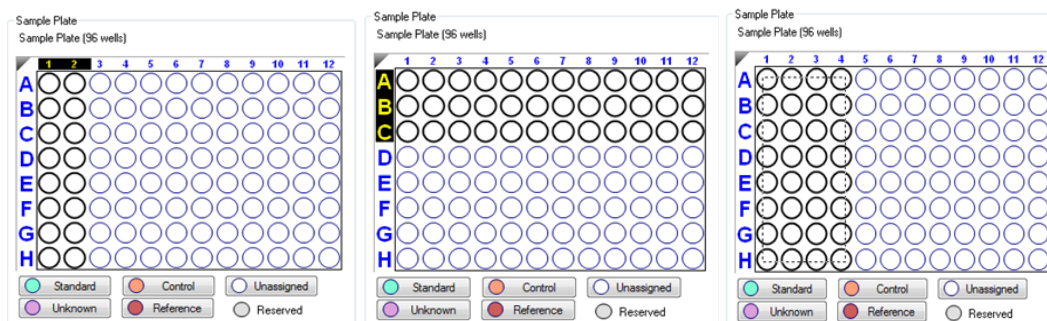

Figure 6-3: Selecting Wells in the Sample Plate Map
- Click a column header or select adjacent column headers by click-hold-drag (Figure 6-3, left). To select non-adjacent columns, hold the **Ctrl** key and click the column header.
- Click a row header or select adjacent row headers by click-hold-drag (Figure 6-3, center).
- Click a well or draw a box around a group of wells (Figure 6-3, right).